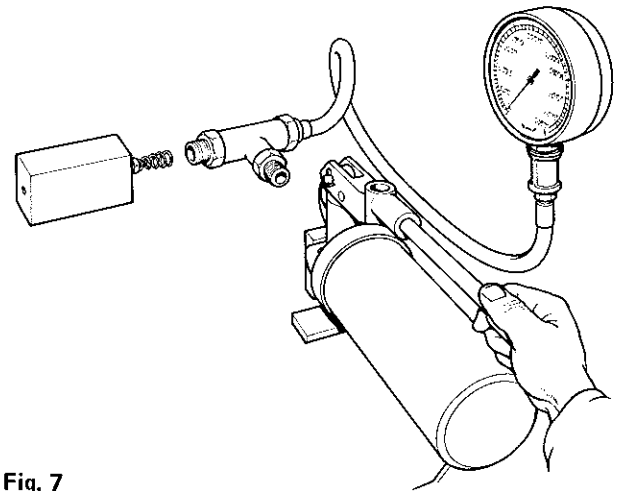

Fig. 7
42. **SLRV. Pressure test.** (fig. 7) Use the pump to generate pressure until the valve relieves. Note the pressure.